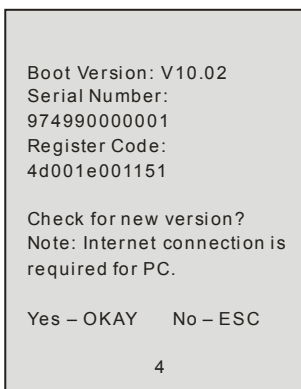

Figure 7-1
2. If a newer version is found, a screen similar to Figure 7-1 appears.